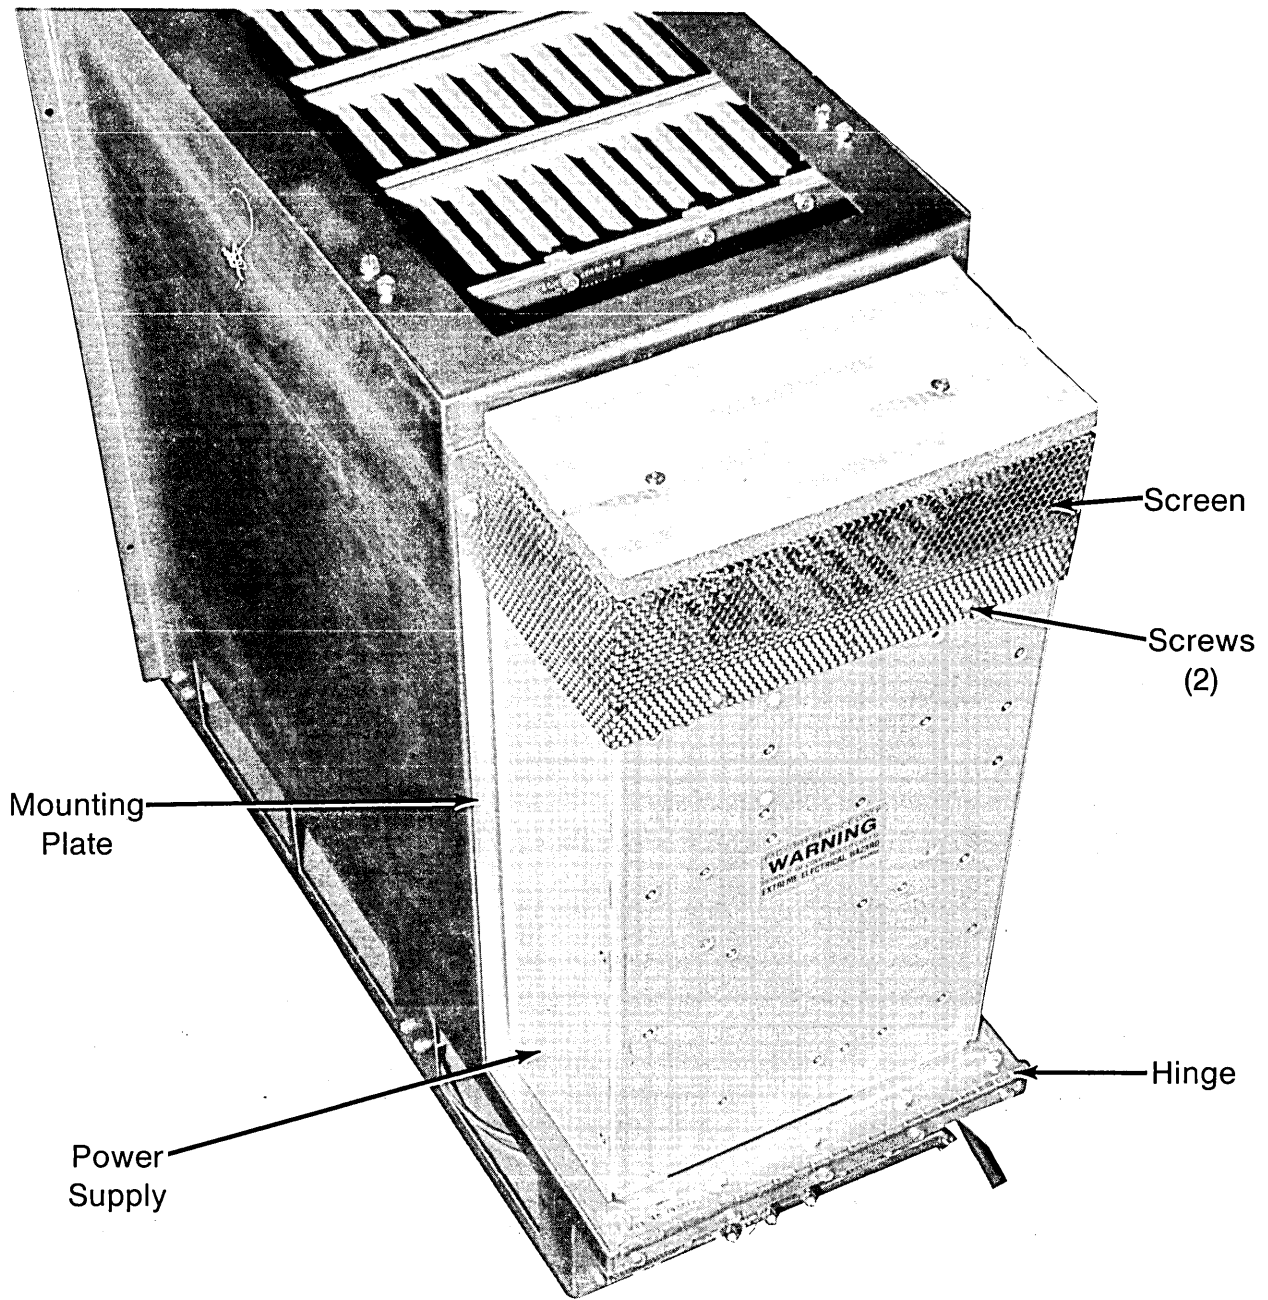

Figure 5-36. Power Supply on Rear of Display Generator Chassis
4. See figure 5-36. Remove two screws holding the protective screen over the power supply terminals. Remove the screen.